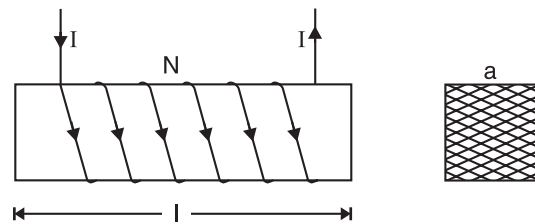

Fig. 9.9
**(iii) Third Method.** The inductance of a magnetic circuit can be found in terms of its physical dimensions. Consider an iron-cored \*solenoid of dimensions as shown in Fig. 9.9. Inductance of the solenoid is given by [from exp. (ii) above] ;